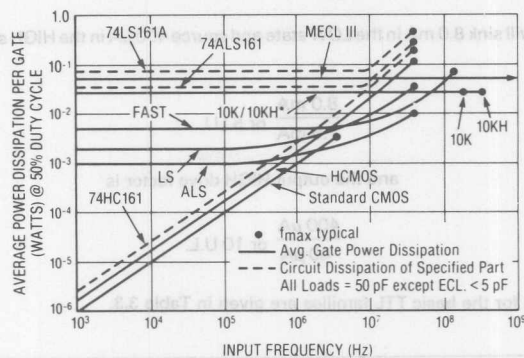

FIGURE 3-1
**POWER CONSUMPTION.** With the exception of ECL, all logic families exhibit increased power consumption at high frequencies. Figure 3.1 shows this characteristic for common logic families. This figure refers to an average single gate dissipation, care must be taken when switching multiple gates at high frequencies to assure that their combined dissipation does not exceed package and/or device capabilities. As indicated, TTL devices are more efficient at high frequencies than CMOS.